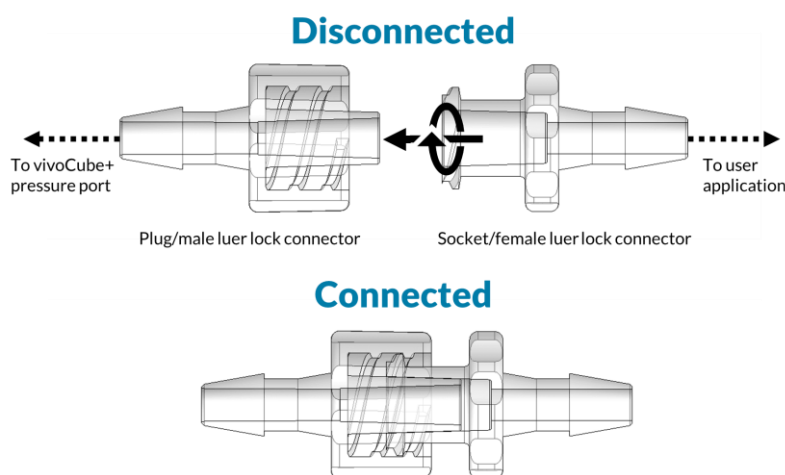

Figure 7: Diagram of plug/male and socket/female luer lock connectors.
- Refer to Figure 7 for the twist-lock connection method between the plug/male luer lock connector at the end of the vivoCube+ port A tubing and the socket/female luer lock connector at the end of the air tubing (connected to the buffer bottle).
- b Refer to Figure 7 for a visual representation of the twist-lock mechanism.